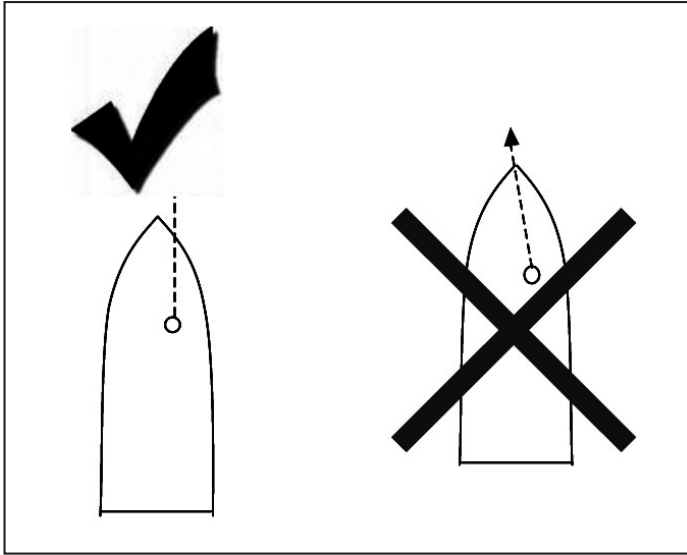

Figure 10. DF-101 Antenna Orientation
- (1) Place antenna array onto antenna mast. Dimensional requirements for mast fabrication are located in Section 9.0, DF-101 Specifications.
- (2) Orient antenna array. Position the antenna such that the two opposing antenna elements facing relative north point parallel to the bow of the vessel (see figure 10). Relative north of the antenna array can be identified by locating the raised "N" text on top of the antenna housing and adjacent to the top, forward looking antenna element. Additionally, there is a small pressure relief valve on the bottom side of the antenna housing adjacent to the bottom, forward looking antenna element.